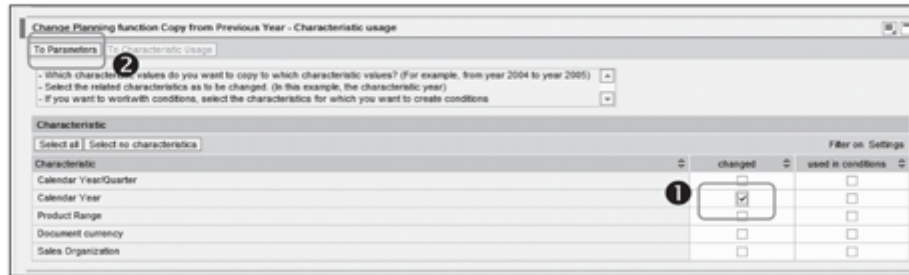

Figure 12.49 Characteristic Usage for Copy Function
2. Select Calendar Year as the field to be changed, as shown in ❶ of Figure 12.49. Then click on *To Parameters* (❷).